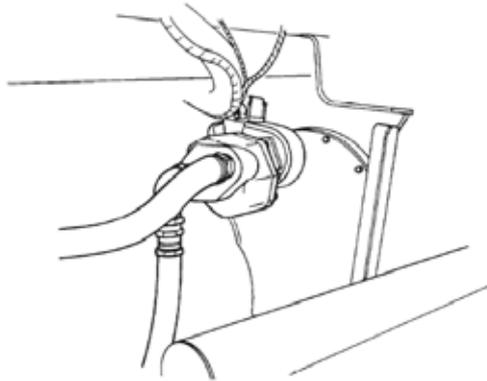

Figure 1 Hydraulic Pump Hoses
- b. Remove the hydraulic hoses (Figure 1).